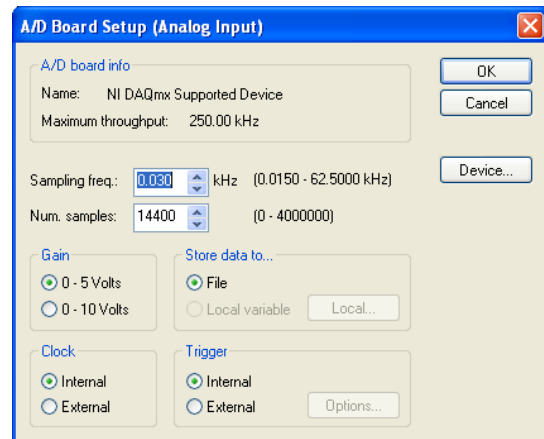

Figure 24: A/D board setup window
2. Click on the “Data Acquisition” icon (encircled in red). The “A/D Board Setup” window, as shown in Figure 24, opens.